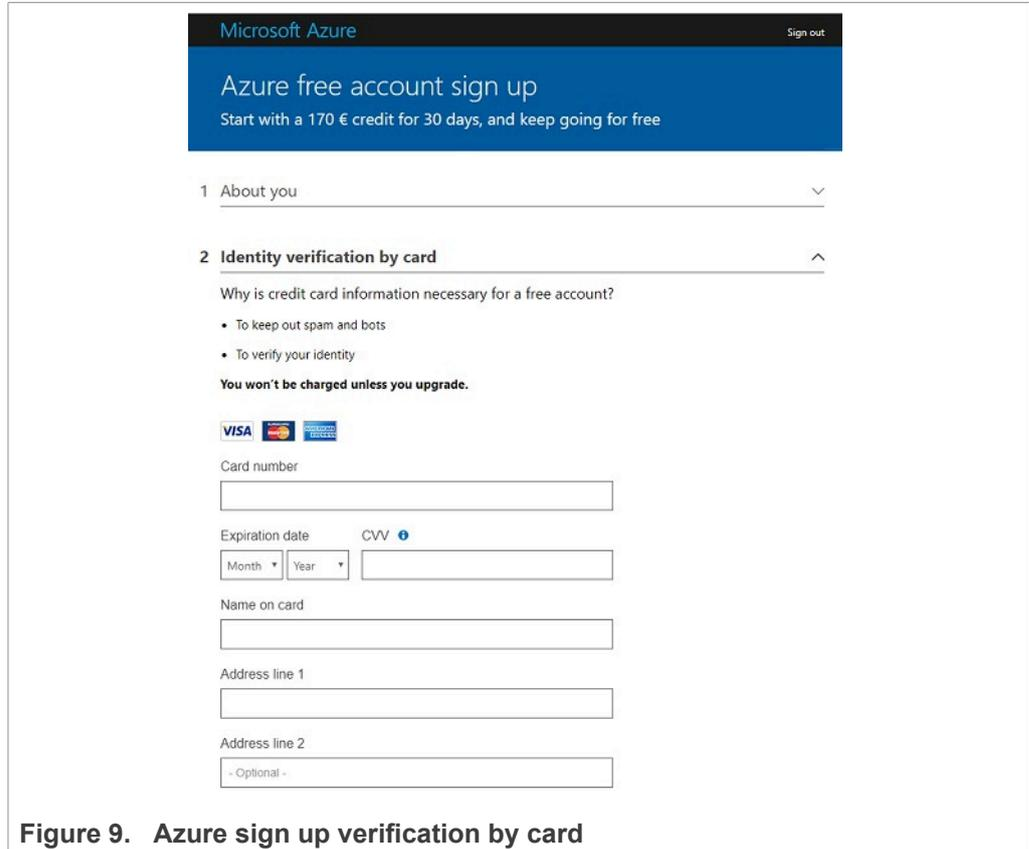

Figure 9. Azure sign up verification by card
- Supply a valid credit or debit card in the form shown in Figure 9. Microsoft will use it to verify your identity. There is no charge involved with the setting up of a trial account. However, there might be a record for a \$0 transaction on your bank statement.